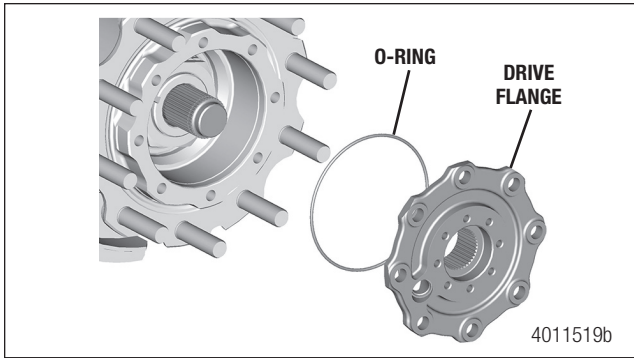

Figure 8.29
1. Install a new O-ring on the drive flange. Figure 8.29.